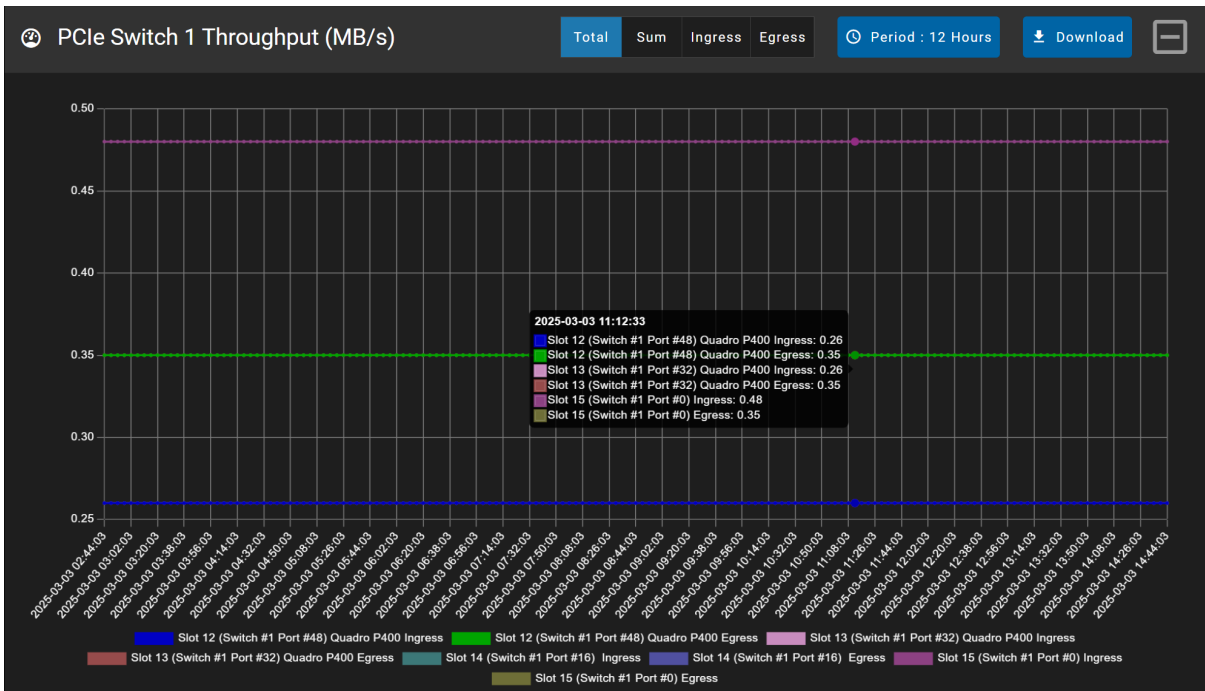

Figure 57. PCIe Switch Throughput Chart
- Navigate to the monitoring interface to find the PCIe Switch Throughput chart (refer to Figure 57).